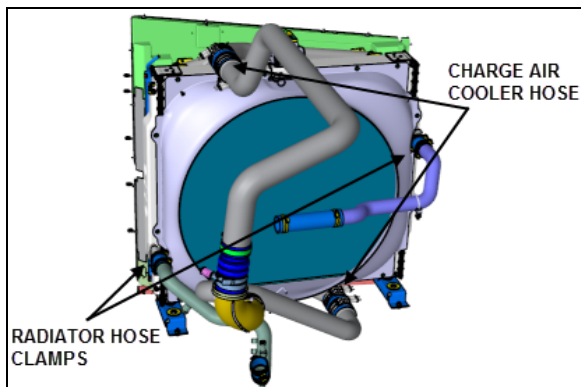

FIGURE 21: RADIATOR & CHARGE AIR COOLER HOSE CLAMPS
10. Remove clamps and then break hoses from the front coolant and charge air pipes (Figure 21).